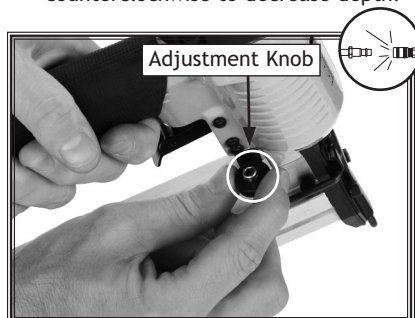

Figure 6. Loosening cap screw for depth adjustment.
2. Rotate the adjustment knob (**Figure 6**) clockwise to increase depth or counterclockwise to decrease depth.